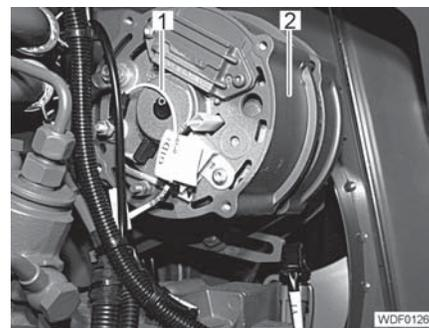

Fig. 13 Generator
- Remove the 3 cables (Fig. 13,1) from the generator (Fig. 13,2).